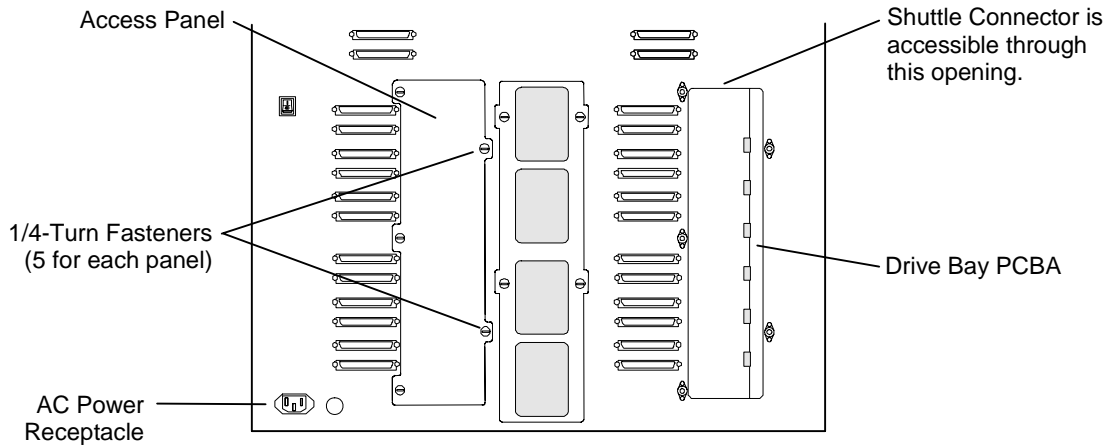

Figure 7-49 Rear of TLS with Access Panel Removed
4. As viewed from the rear, use a flat-blade screwdriver to remove the Access Panel on the right side of the TLS by turning its five quarter-turn fasteners counter-clockwise (Figure 7-49).
6. Align the Drive Access Panels five quarter-turn fasteners with the corresponding receptacles on the rear panel, then fasten it by turning the quarter-turn fasteners clockwise (Figure 7-49).